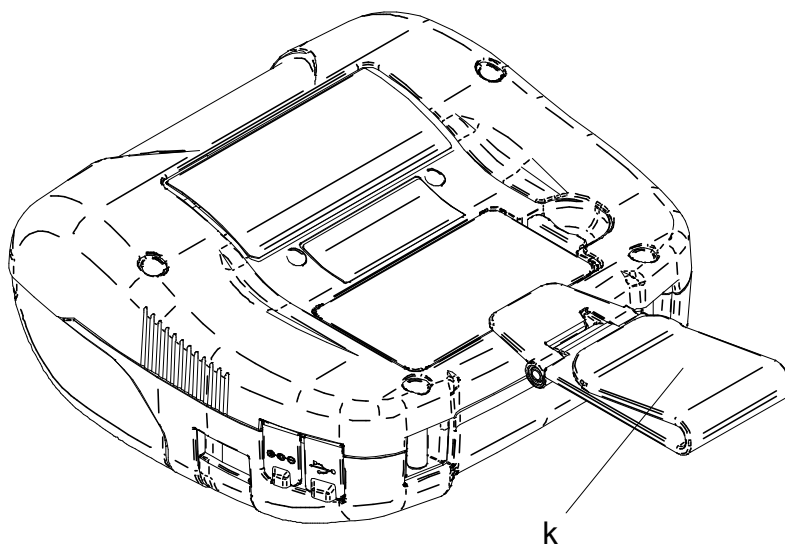

Figure 14-3 Belt Clip Installation (3)
- (5) Install the battery pack in the printer.
- (6) Hook the part "k" of the belt clip in Figure 14-3 to your belt.